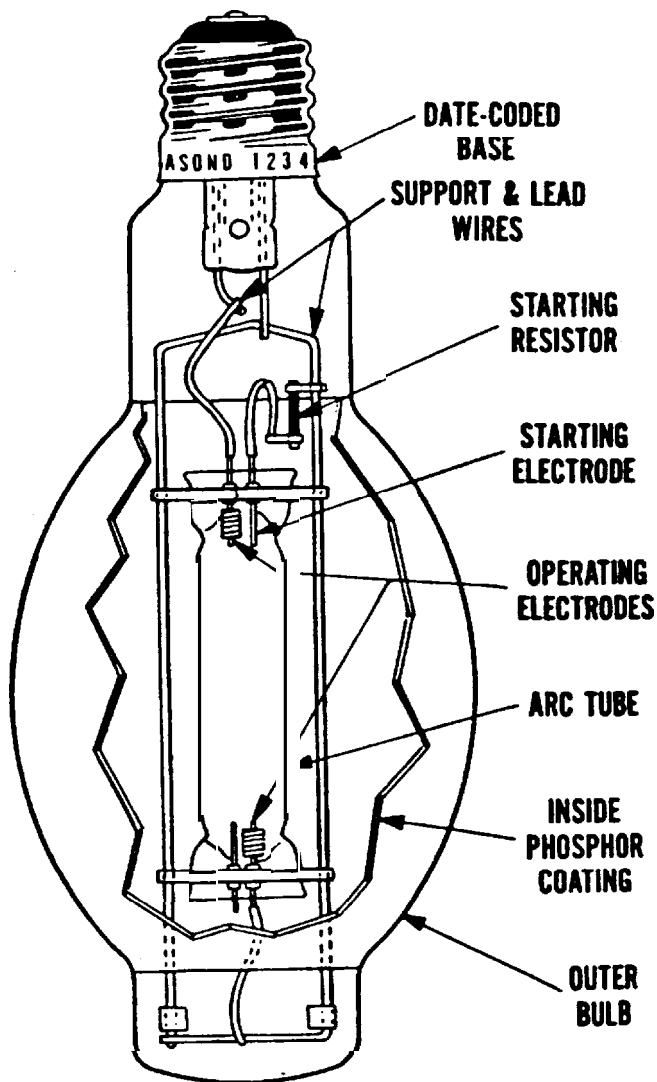

Figure 9-2. Mercury lamp.
a. *Mercury lamps.* The maintained light output of mercury lamps is high because the electrodes operate at a relatively cool temperature resulting in less oxide contamination of the operating electrodes and the discharge gas. Long average life (24,000 hours or more) is a primary characteristic of most mercury lamps. While some models may have lamp bases the same size as incandescent lamps, standard mercury lamps must never be used to replace a burned out incandescent lamp (fig 9-2). However, there are self-ballasted mercury lamps which can be used as direct replacements for incandescent lamps. The installer should check which type is compatible with the fixture before turning on the power. An objectionable characteristic of mercury lamps is the time required to reignite (several minutes) after a momentary loss of power. It should be noted that this lamp can cause serious skin burn or eye inflammation from ultraviolet radiation if the outer envelope of the lamp is broken or punctured, and the arc tube continues to operate. Lamps allowed to operate in this way constitute both a fire and a personnel safety hazard and should be replaced promptly. There are certain lamps available that will automatically extinguish when the outer envelope is broken.